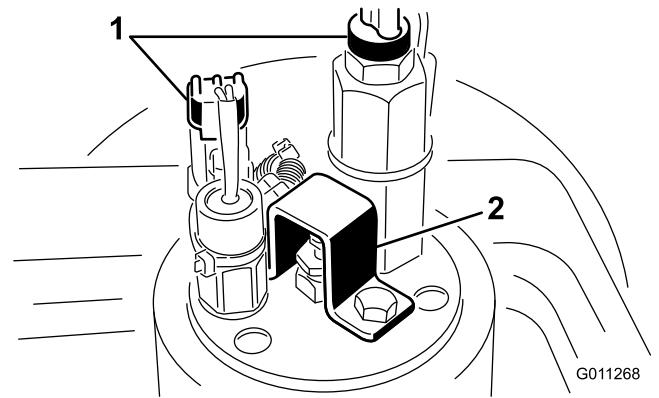

Figure 2
4. Remove the cable ties securing the pressure sensor wires to the side of the accumulator. Unplug the connectors from the pressure sensors on top of the accumulator (Figure 2).